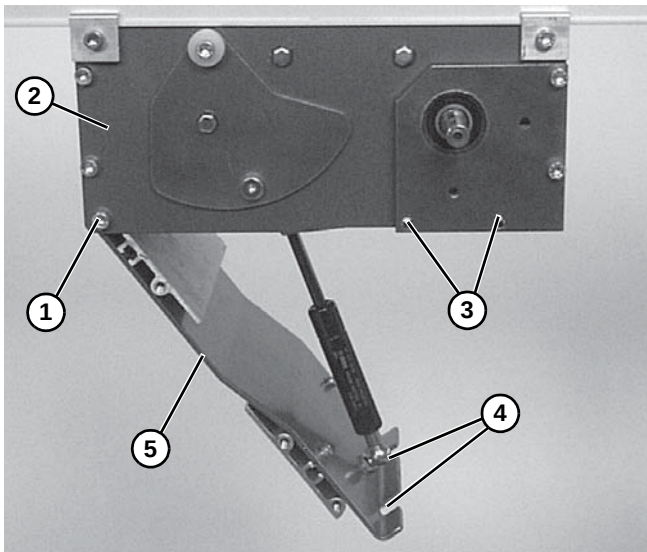

Figure 19
4. Loosen corner screws (**Figure 19, item 1**), on each side of the drive module (**Figure 19, item 2**).
5. Remove tension door screws (**Figure 19, item 3**) on each side of the drive module.
*With vertically mounted gearmotors, tension door screws (**Figure 19, item 3**) are removed from one side when the gearmotor mounting package is removed.*
6. Using finger grip holes (**Figure 19, item 4**), open the tension door (**Figure 19, item 5**) to release conveyor belt tension.